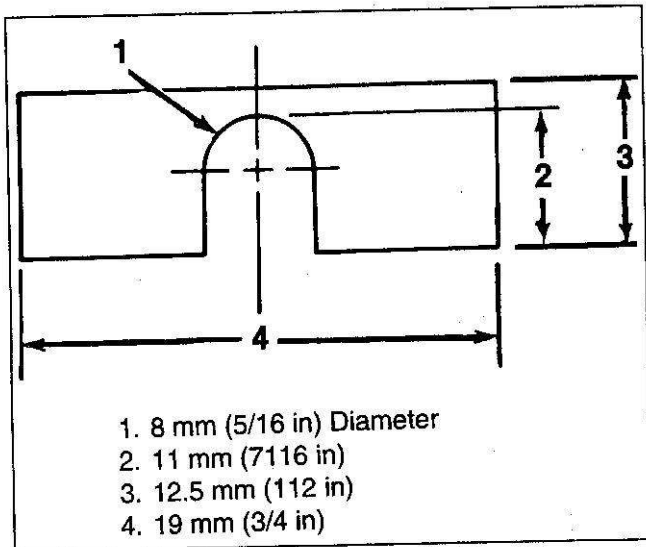
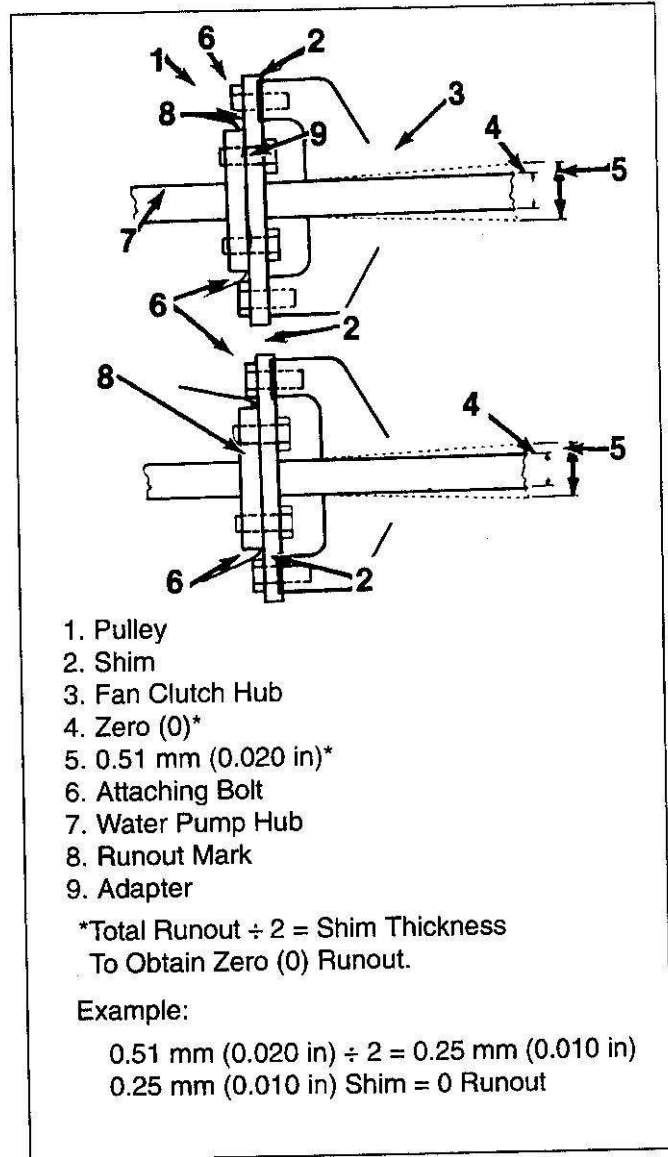

Figure 6. Shim Dimensions
Figure 7. Shim Placement
5. Divide the total indicator reading in half and obtain this thickness from stock 12.5×19 mm (1/2 × 3/4 in) and rework as shown in figure 6. Place this shim between the adapter and the fan clutch at the bolt closest to the point marked on the pulley in step 3. If the runout mark on the pulley is between two bolts so that it is difficult to determine which bolt is closest, use two shims placing one under each bolt adjacent to the mark (figure 7).